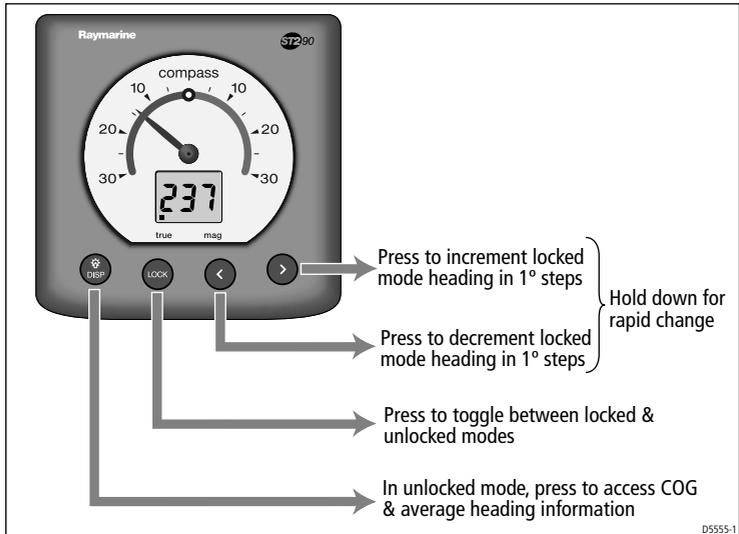
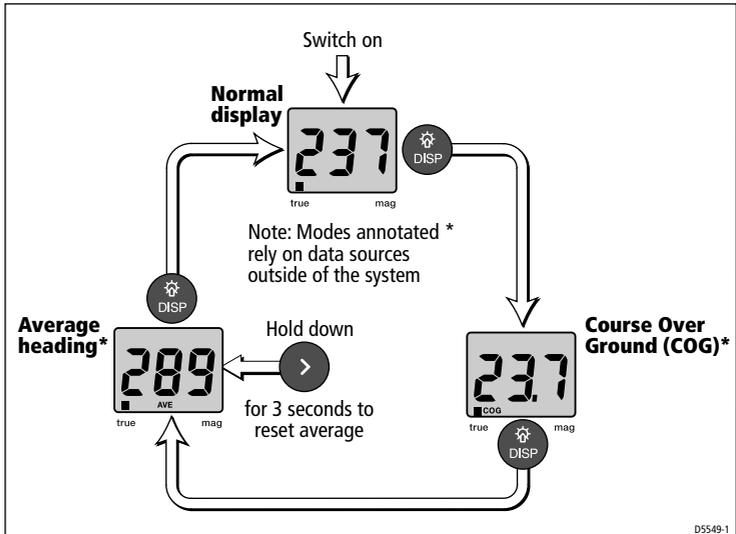

Figure 3-2: Basic operation
Figure 3-3: Selecting operating screen
*Figure 3-2* shows the button functions. Use this information, in conjunction with the information in *Figure 3-3* to operate your ST290 Compass instrument.